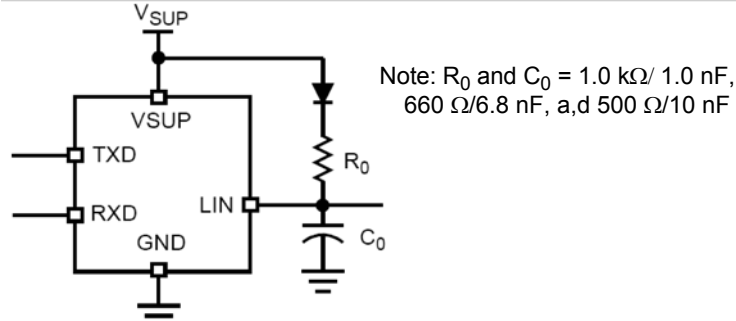
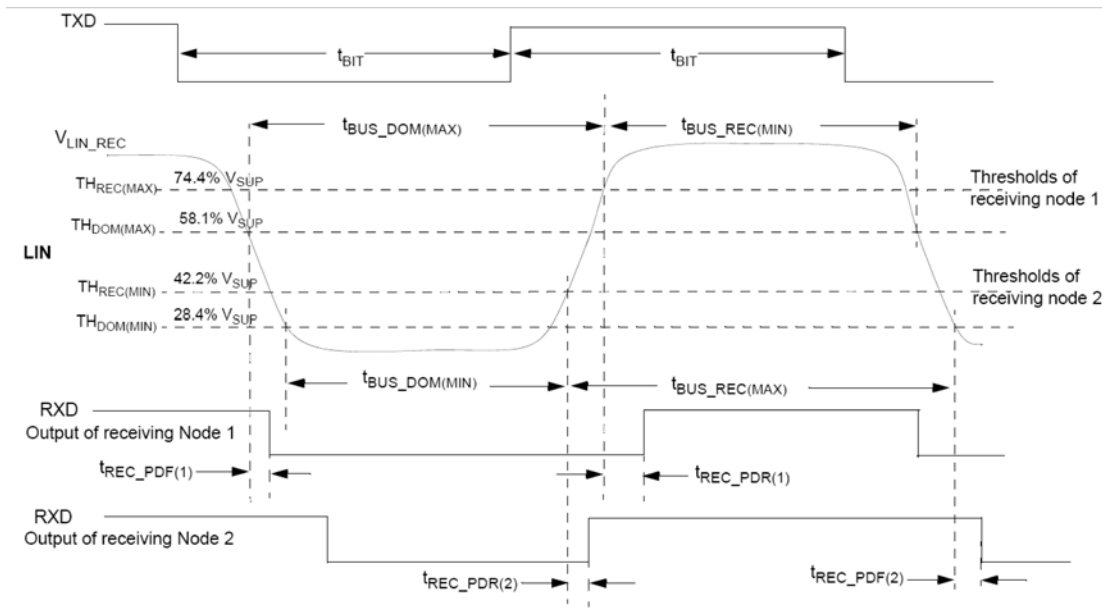
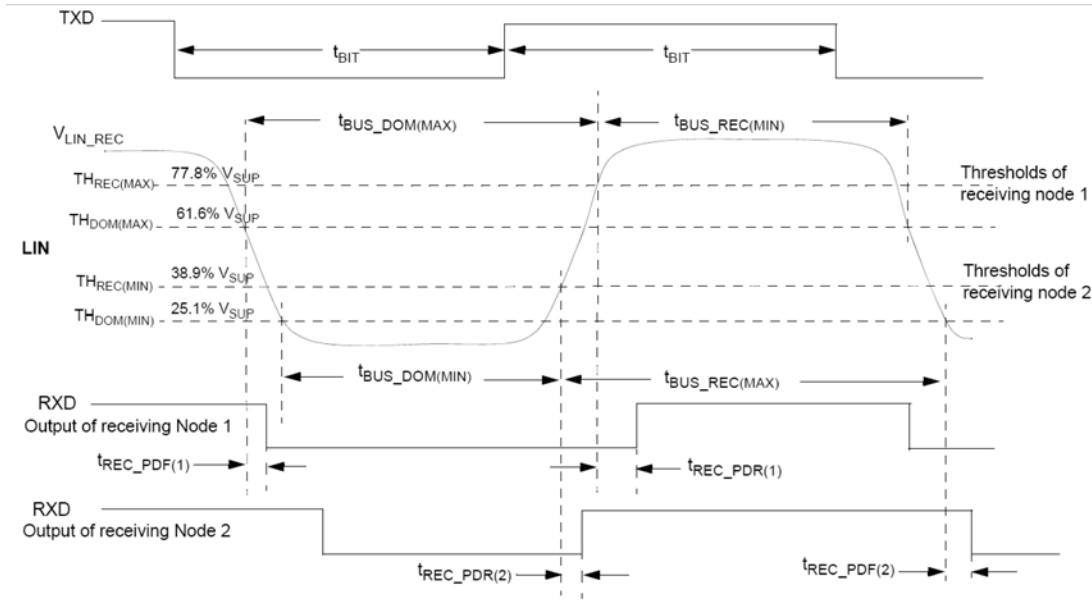
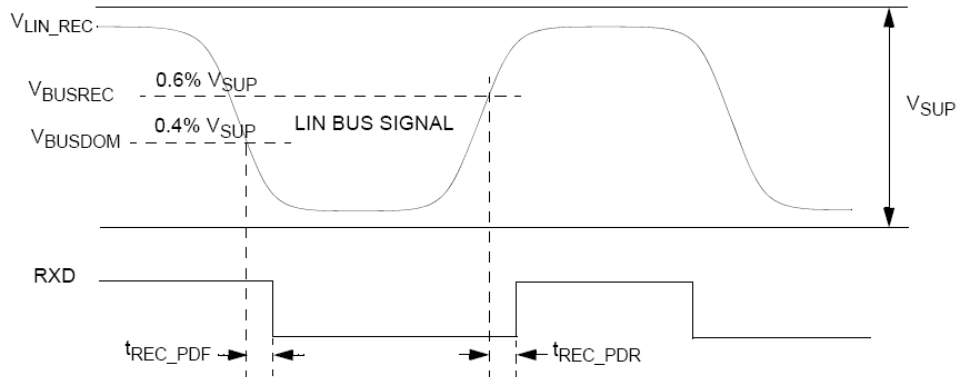

Figure 5. Test Circuit for Timing Measurements
Figure 6. LIN Timing Measurements for Normal Baud Rate
Figure 7. LIN Timing Measurements for Slow Baud Rate
Figure 8. LIN Receiver Timing
33.  $V_{SUP}$  from 7.0 to 18 V, bus load  $R_{BUS}$  and  $C_{BUS}$  1.0 nF / 1.0 k $\Omega$ , 6.8 nF / 660  $\Omega$ , 10 nF / 500  $\Omega$ . Measurement thresholds: 50% of TXD signal to LIN signal threshold defined at each parameter. See Figure 5 and Figure 8.
LIN Driver - 20.0 kBit/s; Bus load conditions ( $C_{BUS}$ ;  $R_{BUS}$ ): 1.0 nF; 1.0 k $\Omega$  / 6.8 nF; 660  $\Omega$  / 10 nF; 500  $\Omega$ . Measurement thresholds: 50% of TXD signal to LIN signal threshold defined at each parameter. See Figure 5 and Figure 6.
LIN Driver - 10.0 kBit/s; Bus load conditions ( $C_{BUS}$ ;  $R_{BUS}$ ): 1.0 nF; 1.0 k $\Omega$  / 6.8 nF; 660  $\Omega$  / 10 nF; 500  $\Omega$ . Measurement thresholds: 50% of TXD signal to LIN signal threshold defined at each parameter. See Figure 5 and Figure 7.